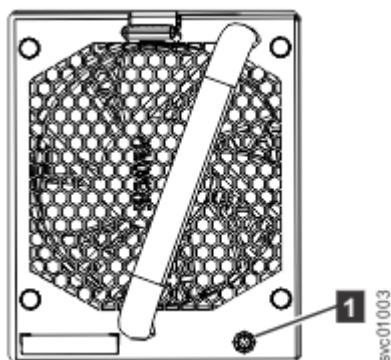

Figure 145. Fan module LED
1. Identify the fan module to be replaced. When lit, the amber LED on the front of the fan module (1 in Figure 145 on page 196) identifies a fault.